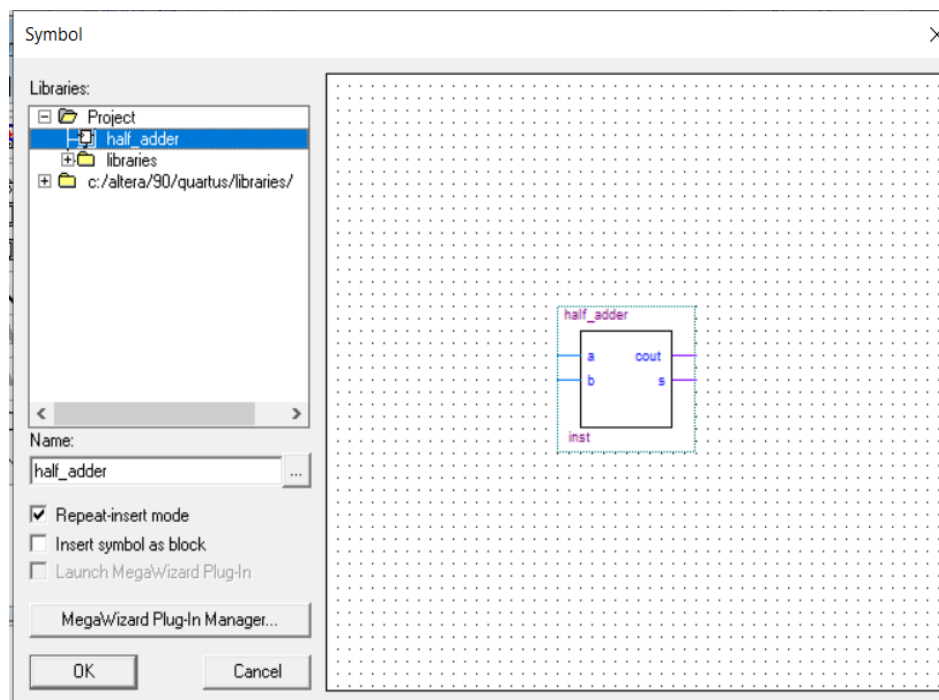

Figure 8.23: use symbol in diagram.
11. we want to use this symbol in diagram we search name of symbol (code name).as shown in Figure 8.23.